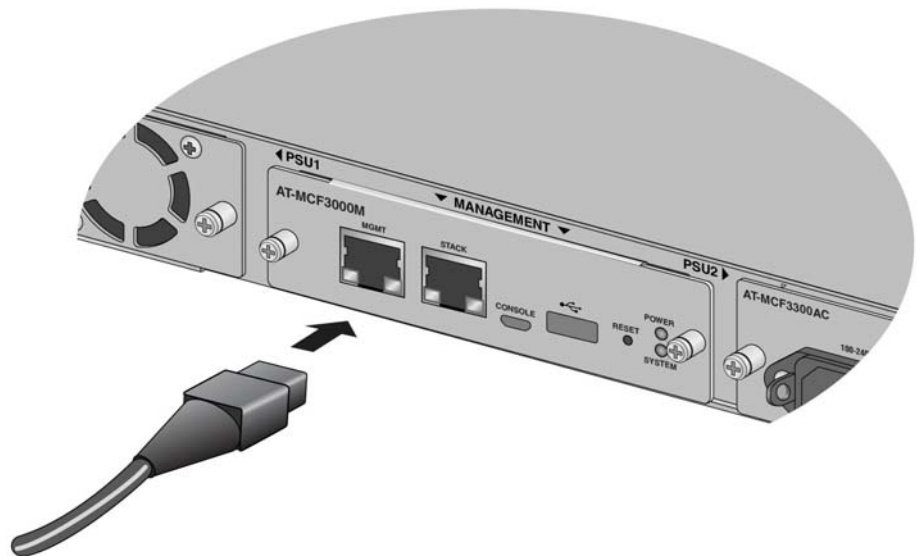

Figure 50. Cabling the MGMT Port on the MCF3000M Management Module
1. Attached an Ethernet cable to the MGMT port. Refer to Figure 50.